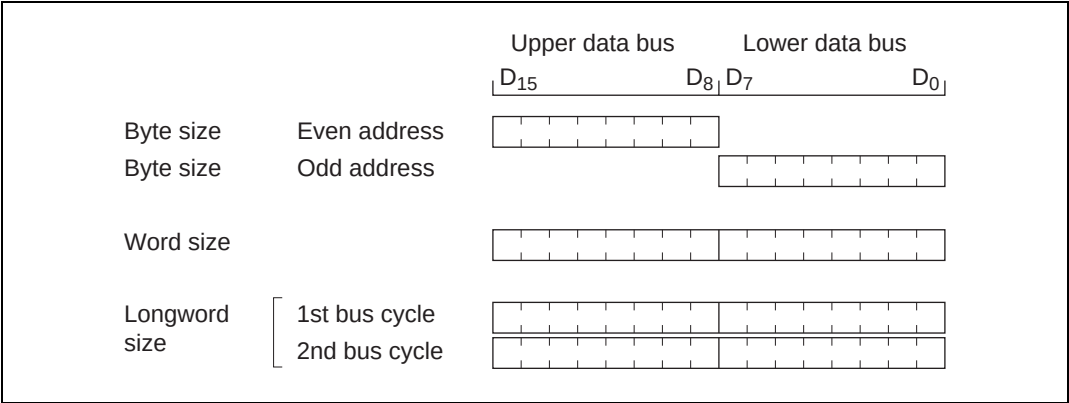

**Figure 6.5 Access Sizes and Data Alignment Control (16-Bit Access Space)**
**16-Bit Access Space:** Figure 6.5 illustrates data alignment control for the 16-bit access space. With the 16-bit access space, the upper data bus (D15 to D8) and lower data bus (D7 to D0) are used for accesses. The amount of data that can be accessed at one time is one byte or one word, and a longword transfer instruction is executed as two word transfer instructions.